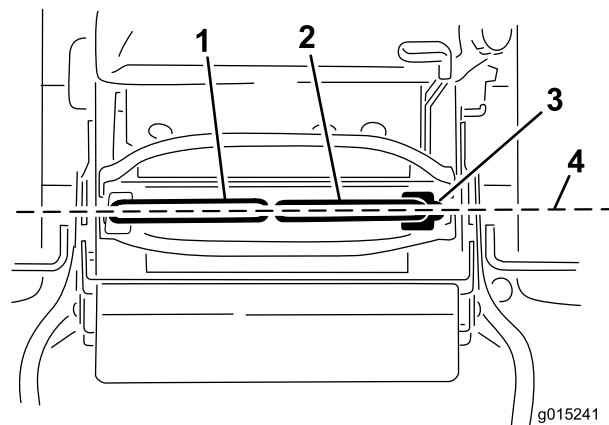

Figure 72
Important: Ensure the tracking of the mower is correct after adjusting the motion control levers. Adjusting the tracking and aligning the motion control levers front to back is the same procedure (Figure 72).
1. After the horizontal alignment is finished, check the front to back alignment (Figure 72).